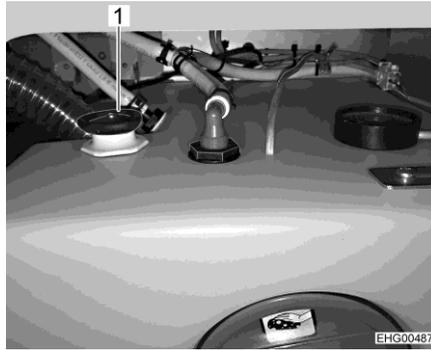

Fig. 60 Water tank with rotary handle
- Turn the rotary handle (Fig. 60,1) on the water tank in an anticlockwise direction as far as possible beyond the resistance to fully open the drainage opening.